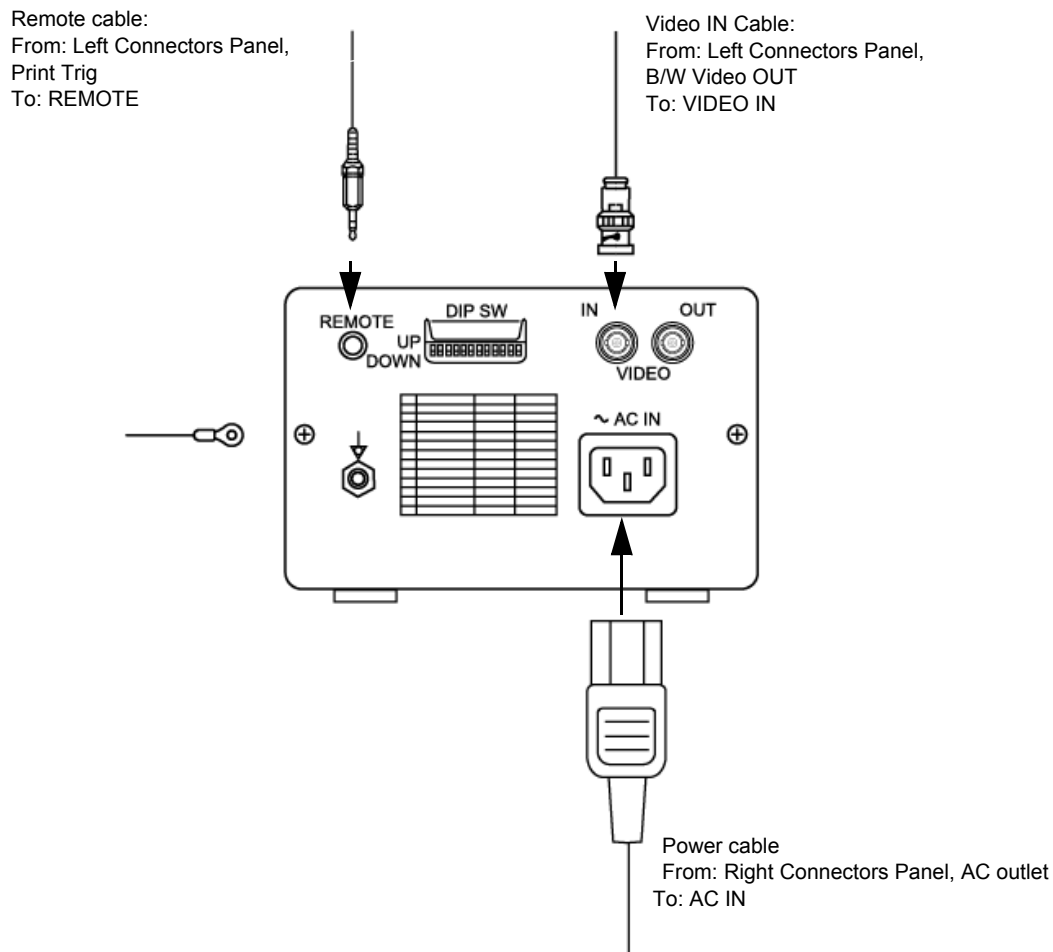

Figure 8-103 B/W Video Printer Connection Cables
- 2.) Connect the Remote cable, the B/W Video IN cable, and the Power cable, as shown in Figure 8-103 below.
- 3.) Disconnect the Remote cable, the B/W Video IN cable, and Power cable from rear of the printer (refer to Figure 8-103 on page 8-116).